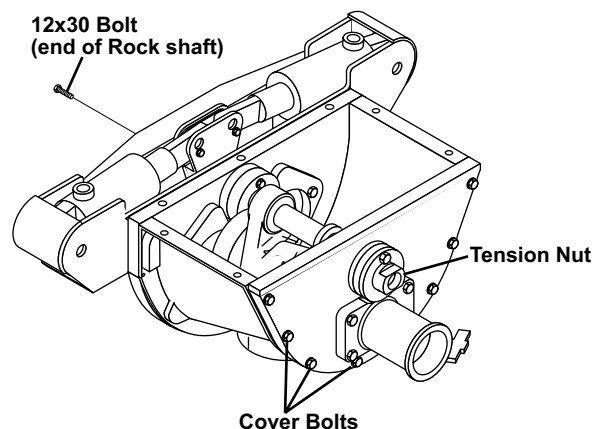

Figure 12
3. Loosen the eight cover bolts a couple of threads, but do not remove the bolts (Figure 12).